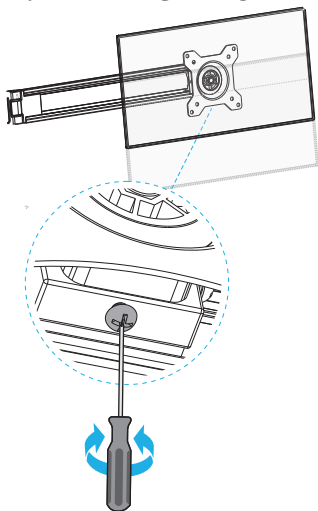

Figure 27
1. Locate the **Height Adjustment Screw** at the bottom of the **VESA Monitor Mount**. (Figure 27)
2. Use a **Phillips Head Screwdriver** to **Tighten** or **Loosen** the **Screw** and adjust the **Height**. (Figure 27)